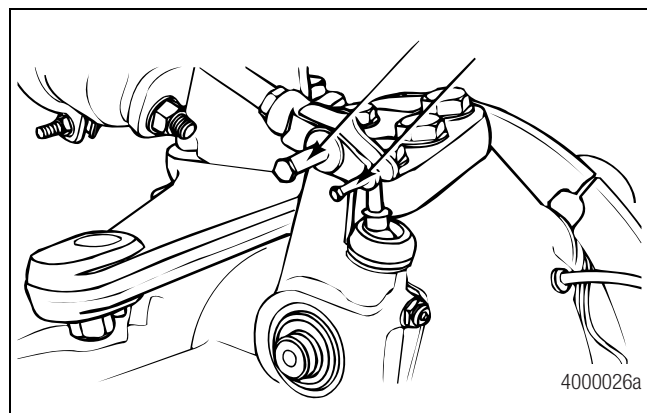

Figure 3.13
3. Remove the pins that engage the push rod yoke and the slack adjuster. Figure 3.13.